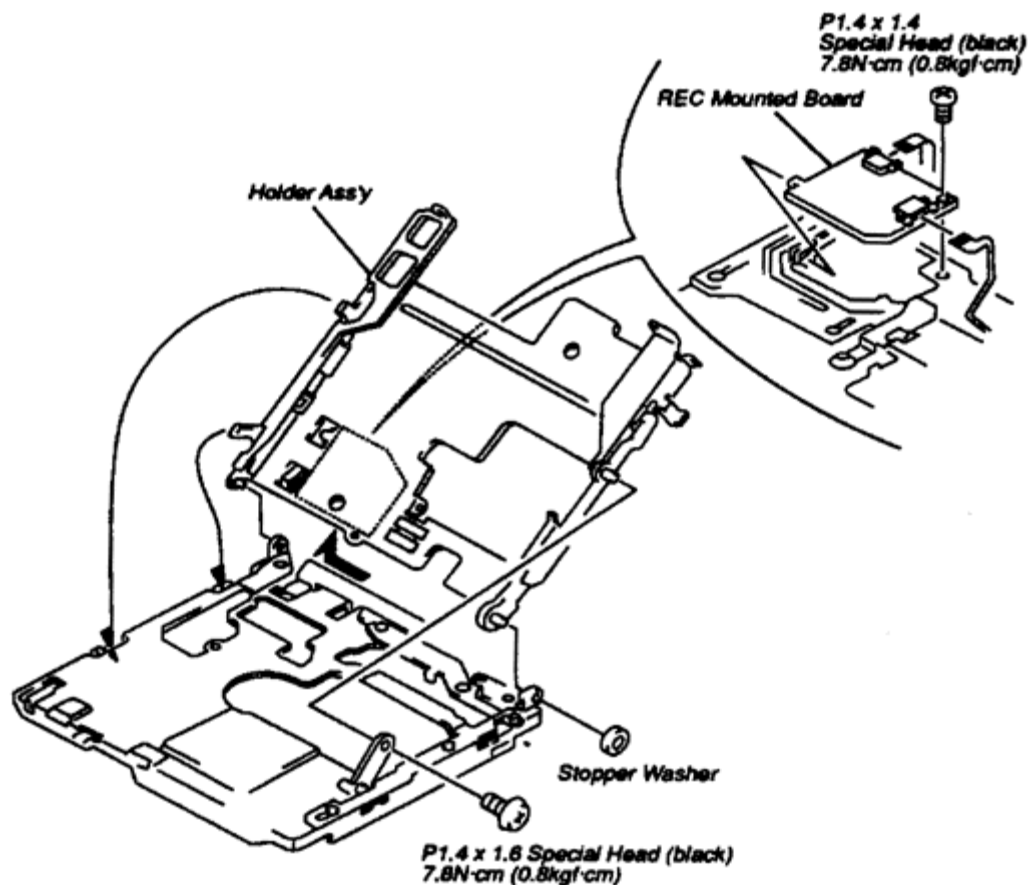

Fig. 4-8 (f) Holder Ass'y and REC Mounted Board Replacement
- b. Remove the Stopper Washer located right rear of the Mech Deck from the shaft with Tweezers and then shift it left side and it can be taken away. (Refer to Fig. 4-8(f))
- a. Remove the screw (M1.4x1.4 Special Head/black) securing the REC Mounted Board Ass'y. (Refer to Fig. 4-8(f))